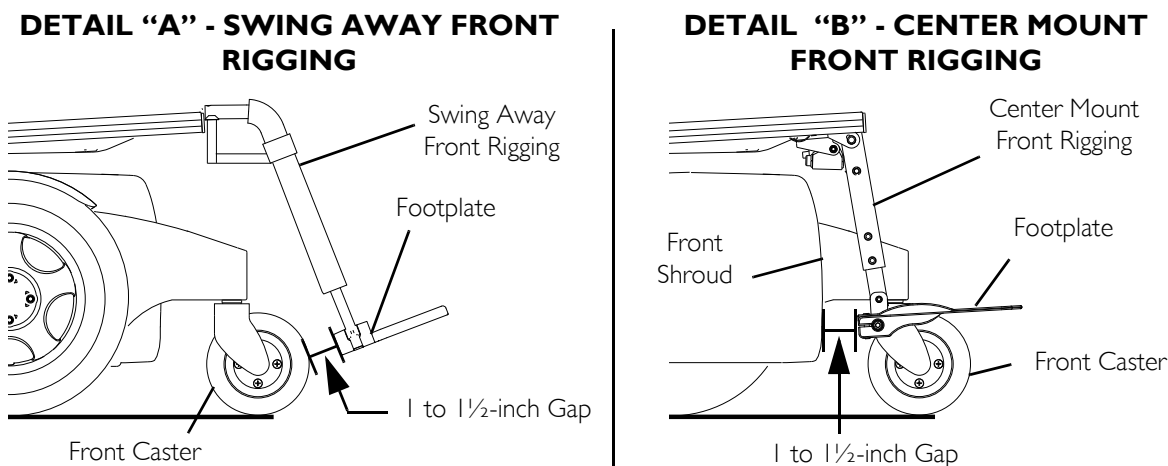
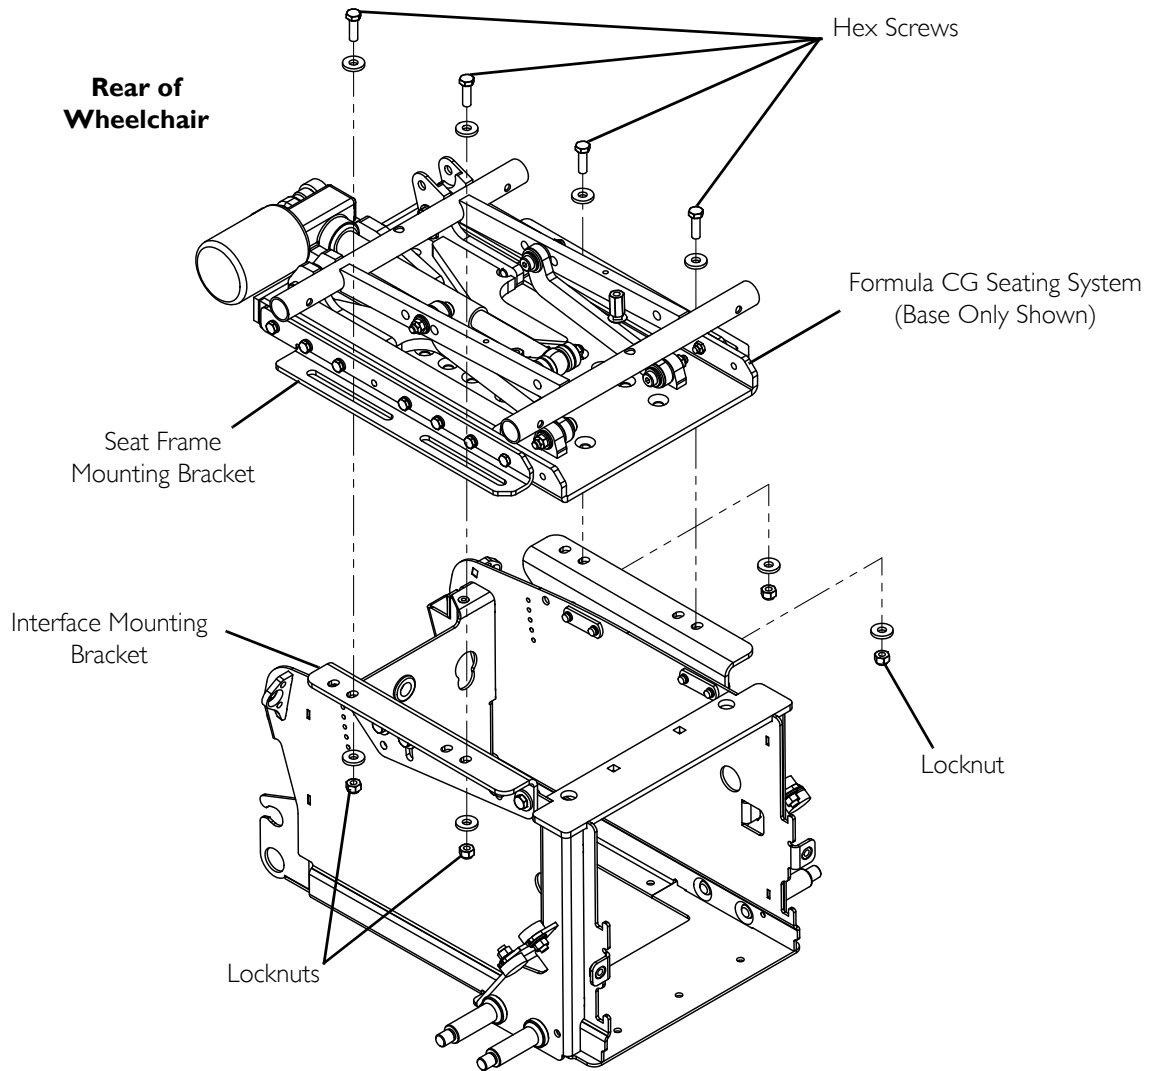

FIGURE 8.3 Checking Formula CG Seating System Mounting Position
FIGURE 8.4 Adjusting the Formula CG Seating System Mounting Position
NOTE: For this procedure, refer to FIGURE 8.3 on page 57.
NOTE: For this procedure, refer to FIGURE 8.4 on page 59 and FIGURE 8.3 on page 57.
- Wheelchairs with Swing Away Front Rigging - Slide the seat frame mounting brackets as far as possible towards the rear of the wheelchair (FIGURE 8.4). Leave 1 to 1½-inch of clearance between the front riggings and the front casters in all caster positions (Detail "A" of FIGURE 8.3).